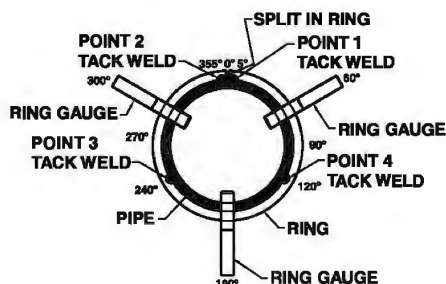

Fig. 7
5. Tack weld the ring in four places starting with point 1 and proceeding counterclockwise to point 4 (see Fig. 7).